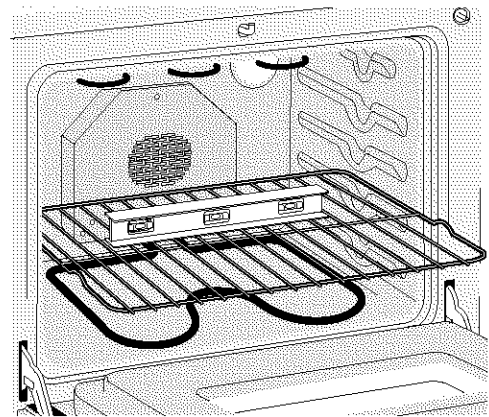

Figure 9
- G. **Level the range. The floor where the range is to be installed must be level** (see Figure 9).